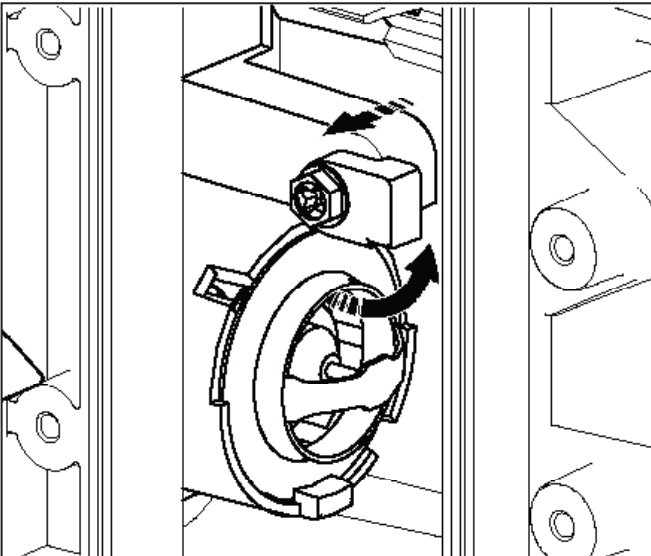

Figure 3. Loosen and Slide Clamp Aside
8. Loosen the clamp screw approximately 4-5 turns and swing the clamp out of the way. Do not unscrew completely or remove the clamp (see Figure 3).